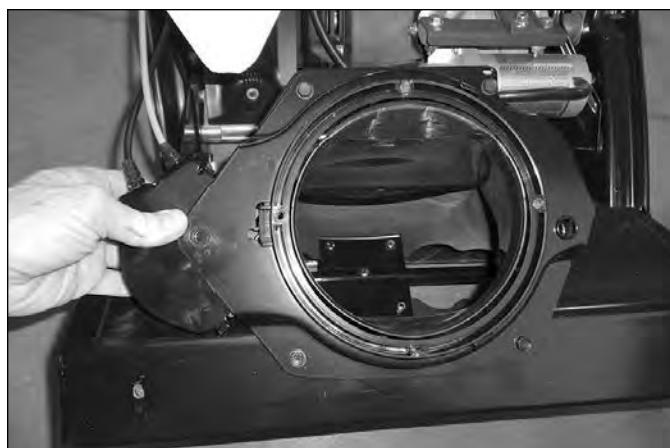

Fig. 033
13. Align the quick chute control and the discharge chute as outlined in the specifications and maintenance chapter. Insert the pinion spacer sleeve and insert the pinion and bracket assembly as shown. Tighten bolt to 8 ft-lbs (11 Nm) (Fig. 033).